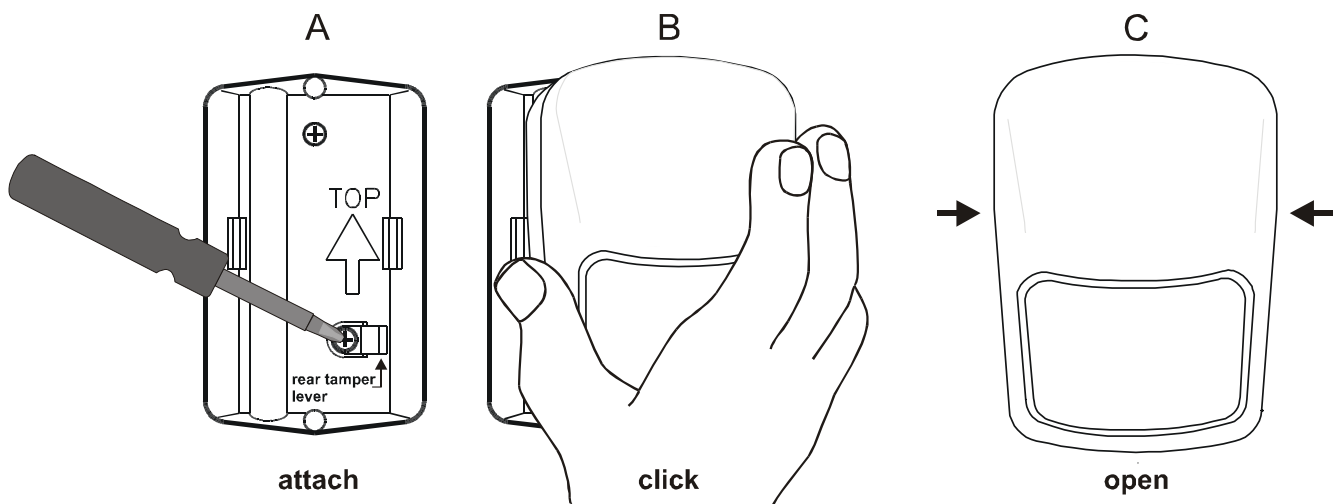

Fig. 9
- A. Attach the bracket with the two provided screws, being sure that the arrow inside the bracket is pointing up. We recommend to install one screw in the pre-punched hole on the lever of the tampering sensor (see fig. 9. A). The second hole can be easily punched out from the pre-formed holes. Tighten the screws firmly, being sure that the bracket is not crooked.